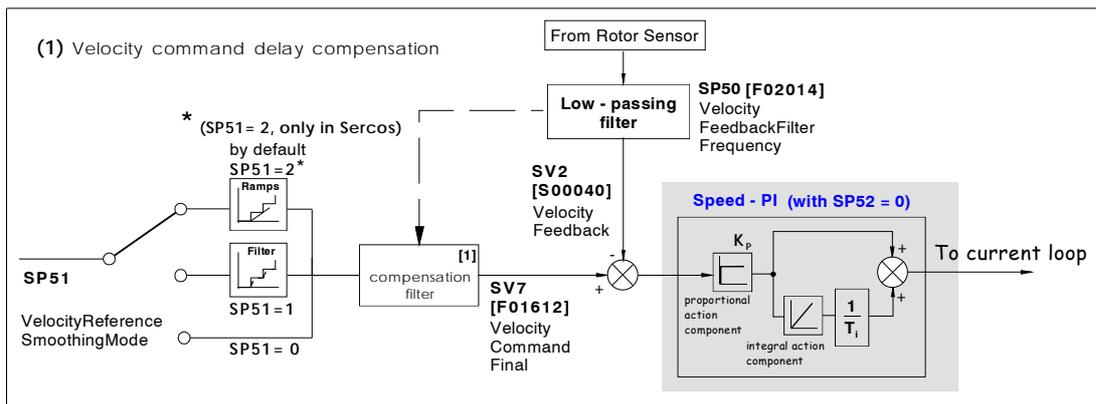

FIGURE S4.14
The velocity loop basically consists of a proportional-integral (PI) controller shown in the **FIGURE S4.14**. Its operation is determined by means of the constants K_p and T_i associated with parameters SP1 and SP2 respectively.